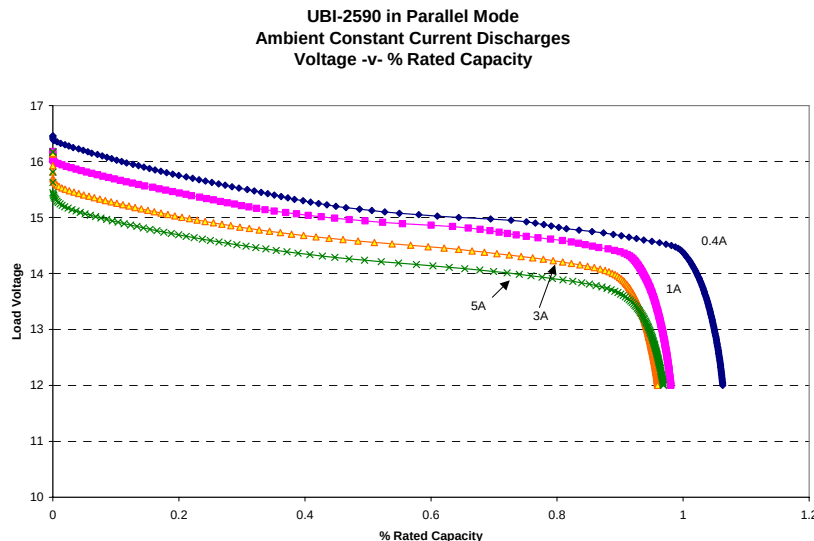

Figure 5
- 11.3. Parallel Mode (16.4v) Ambient Constant Current Discharges Voltage -v- Rated Capacity (Figure 5)